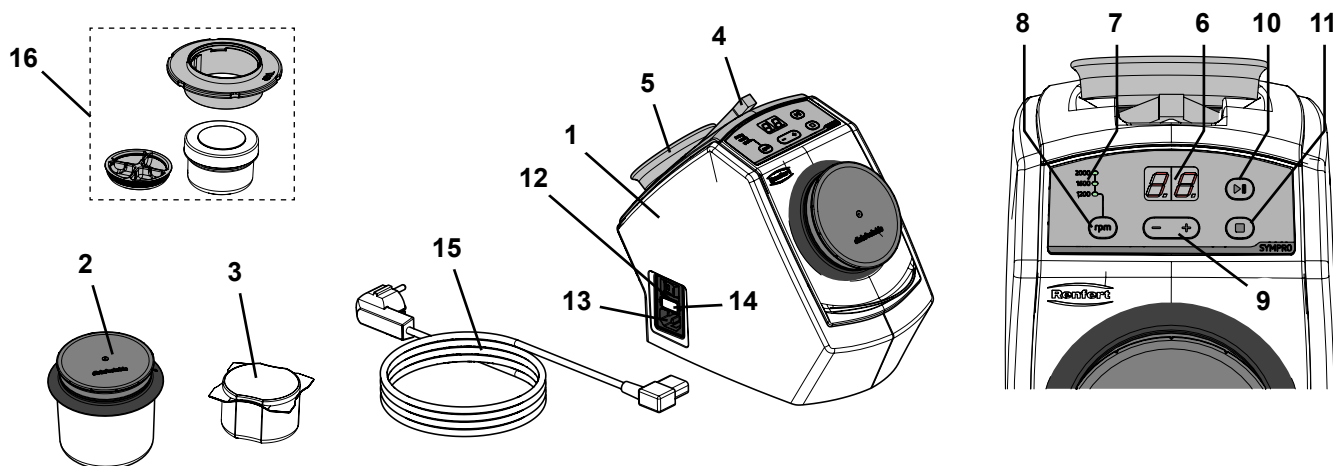

Fig. 1
- ⇒ Place the tweezers supplied with the unit and the retaining magnets in the holder on the back of the appliance (Fig. 1).
- ⇒ Choose a power cable (15, Fig. 1) with the proper plug for your mains supply.
- ⇒ Connect the power cable (13, Fig. 1) to the power supply.
- ⇒ Turn on the appliance at the mains switch (12, Fig. 1).
⇒ Fill the cleaning beaker (2, Fig. 1) with 75 g cleaning needles (equivalent to one pack).
⇒ Fill the SYMPRO mini-cup (16, Fig.1) with ~ 5 g cleaning needles.
⇒ Adjust the cleaning time with the + / - buttons (9, Fig. 1) (range 0 to 30 minutes).
⇒ Set the speed using the speed selection key (8, Fig. 1).
- ◆ The speed display (7, Fig. 1) shows the selected speed.